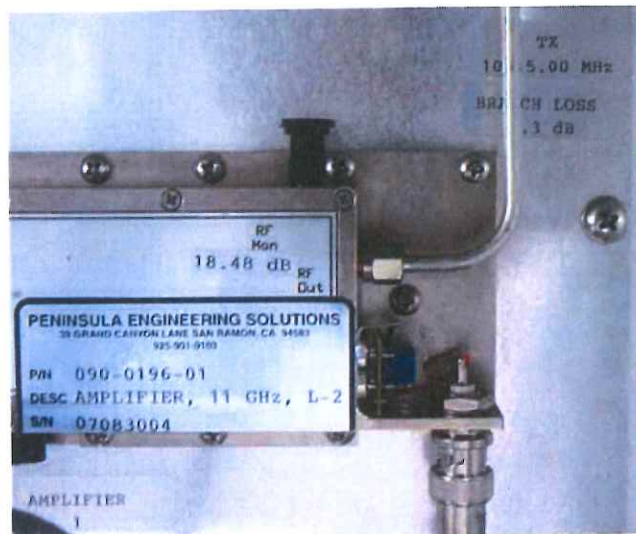

Figure 35 Power Amplifier RF MON and TX Branch Loss
5. Add the Cal Loss marked near the RF MON (see Figure 35) to the power meter reading, the result is the Power Amplifier Output Power.